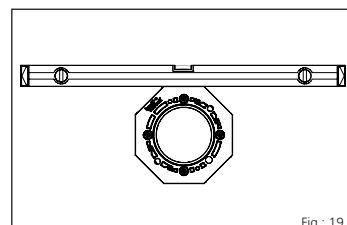

Fig.: 19
- Align internal sealing element with spirit level (see Fig. 19).